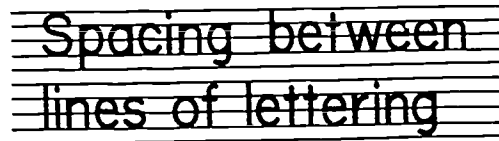

Figure 3-17. Spacing between lines.
**Spacing Between Lines.** The clear distance between lines may vary from 1/2 to 1 1/2 times the height of the letter, but for sake of appearance it should not be exactly the same as the letter height. The lettering instrument provides spacing that is two-thirds of the letter height. As you can see in figure 3-17, this spacing allows room for descenders of lowercase letters and still maintains a clear space of 1/3 letter height between the descenders and capital letters or ascenders of lowercase letters of the following line.